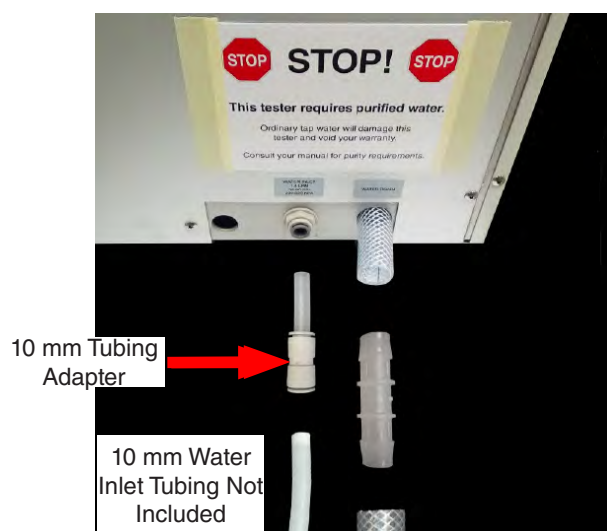

Figure 5.9c: Connect to 10 mm inlet water supply.
- A 10 mm water fitting adapter (U-40817-X) for connecting the tester to a 10 mm inlet water supply is also supplied (Figure 5.9c).